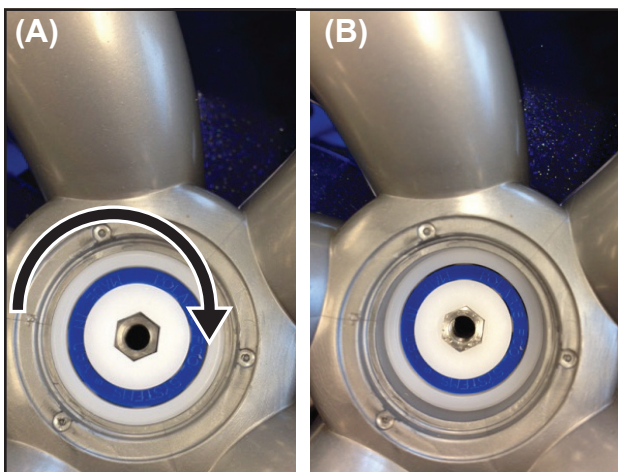

Figure 24. (A) Rotate bearing to align wheel shaft. (B) Press wheel bearing down.
13. Rotate the wheel bearing to align hexagonal notch with the shaft. Press the bearing down firmly. (Figure 24.)